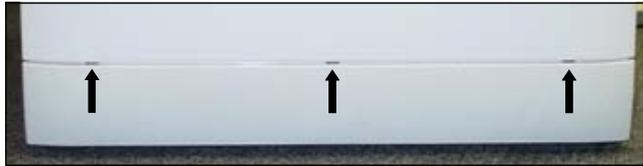
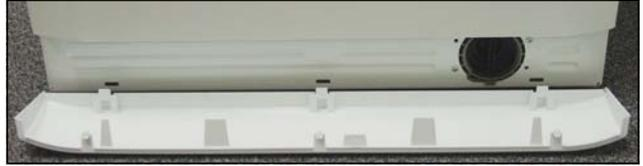

Fig. 5-1
Fig. 5-2
- To remove the Toe Kick, carefully insert a small screwdriver into each of the three (3) retention clips pushing each clip down and then moving to the next clip (Fig. 5-1). With the retention clips released the Toe Kick will unsnap from the base (Fig. 5-2).